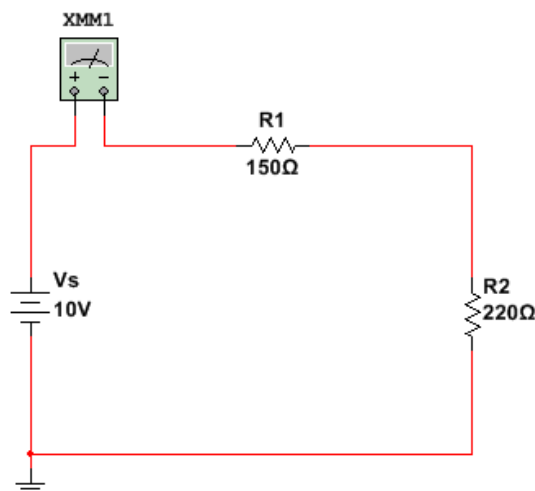

Figure 4.12 – Measuring the current through $150\ \Omega$ resistor
- Obtain one multimeter from the instrument toolbar and connect the multimeter in between the break. Check Figure 4.12.